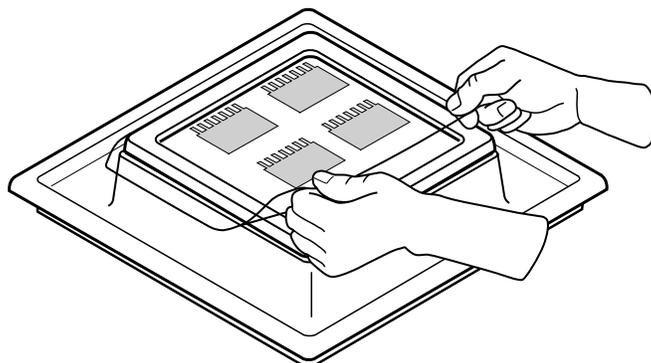

Fig. 5. Adding the top layer of cellophane.
- Wet a second sheet of cellophane with water. Carefully lay this sheet on top of the gels. Use both hands to hold one end of the cellophane while draping the other end over one edge of the plastic frame. Slowly lower the cellophane to cover the gels and the rest of the frame (Figure. 5). If air bubbles are trapped next to one or more of the gels, raise the cellophane to expose the bubbles and then lower it again. If this does not work, add more water and try again. **It is important to remove the air bubbles trapped between the two sheets of cellophane.** If they migrate next to the gel, they can cause gel cracking.